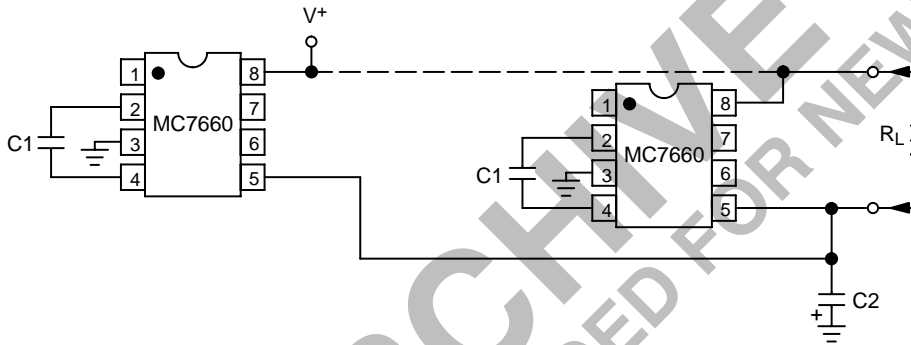

**Figure 4. Simple Negative Converter**
Figure 4 shows typical connections to provide a negative supply where a positive supply is available. A similar scheme may be employed for supply voltages anywhere in the operating range of +1.5 V to +10 V, keeping in mind that pin 6 (LV) is tied to the supply negative (GND) only for supply voltages below 3.5 V.
The output characteristics of the circuit in Figure 4 are those of a nearly ideal voltage source in series with 70 Ω. Thus, for a load current of -10 mA and a supply voltage of +5.0 V, the output voltage would be -4.3 V.
Figure 10 combines the functions shown in Figures 4 and 9 to provide negative voltage conversion and positive voltage multiplication simultaneously. This approach would be, for example, suitable for generating +9.0 V and -5.0 V from an existing +5.0 V supply. In this instance, capacitors  $C_1$  and  $C_3$  perform the pump and reservoir functions, respectively, for the generation of the negative voltage, while capacitors  $C_2$  and  $C_4$  are pump and reservoir, respectively, for the multiplied positive voltage. There is a penalty in this configuration which combines both functions, however, in that the source impedances of the generated supplies will be somewhat higher due to the finite impedance of the common charge pump driver at pin 2 of the device.